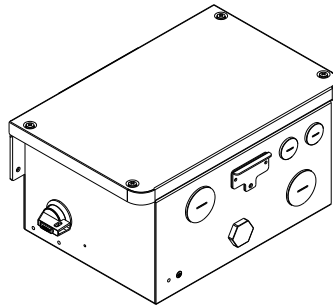

Figure 3-18 PVI 25TL-480-R Wire-Box
- Ensure correct polarity of the PV Strings before terminating the DC source circuits. Referring to Figure 3-18, the wiring from the PV string pairs must be checked according to the following steps:
Prior to installation, confirm the Wire-Box to be used is the Wire-Box as shown in Figure 3-18 below.